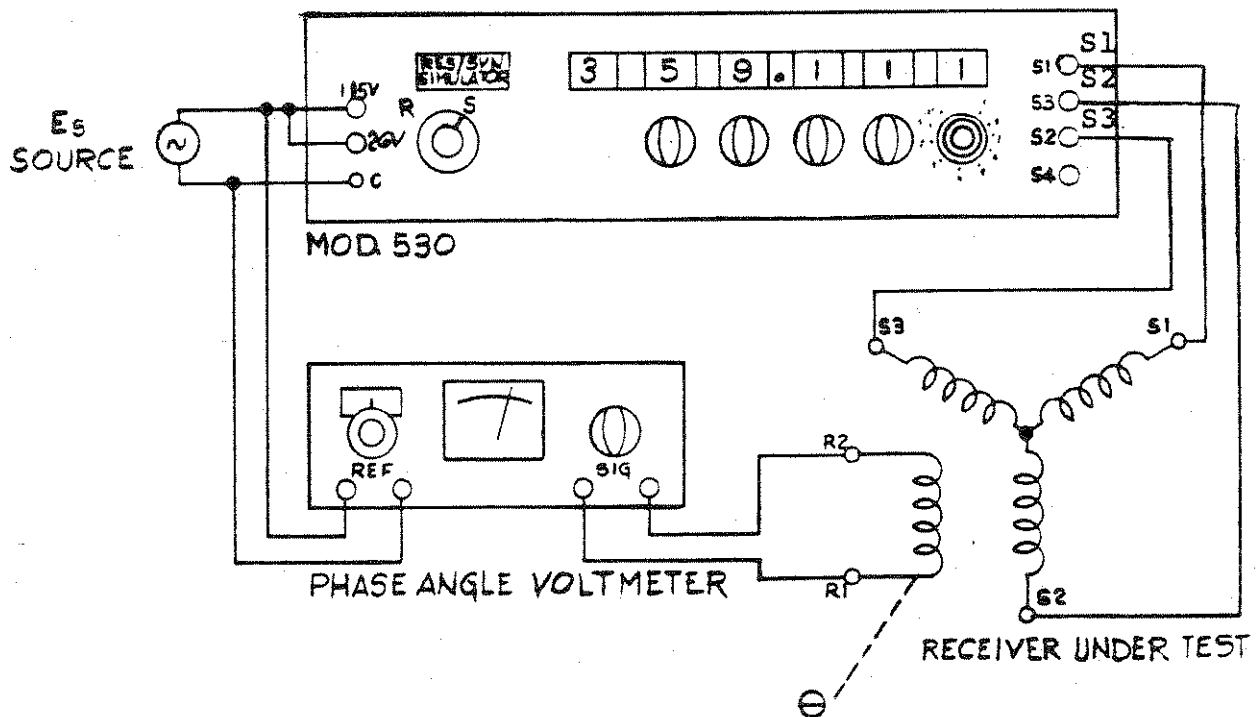

Figure 3-2. Typical Test Hook-up for Testing a Synchro Circuit
a. With a hookup similar to that shown in figure 3-2, adjust the Model 530 Angle Select knobs to produce an approximately in-phase null on the phase angle voltmeter. The null meter phase shifter should be set at 0°.
- (1) While in the region of an approximate null, increase the angle setting of the Model 530. This will produce a more positive deflection on the phase angle voltmeter, if the correct angle has been found and if conventions are in accordance with Section 4 of this manual. If the reading is negative, increase the setting of the Model 530 by 180° and verify that the correct gradient polarity now occurs.
- (2) Proceed with the nulling process by using the highest increment knobs first and continuing to the least significant knob. It will be necessary to down-scale the
as to adjust the Model 530 to the desired angle. Then adjust the receiving resolver or synchro to obtain a null on the output of the receiver as evidenced either by an external phase angle Voltmeter (fig. 3-2) or by some pre-established output of the system being aligned. For example, if a servo such as a North Atlantic API-8025 were being tested, the counter readout would be used to indicate the null position of the receiver shaft.